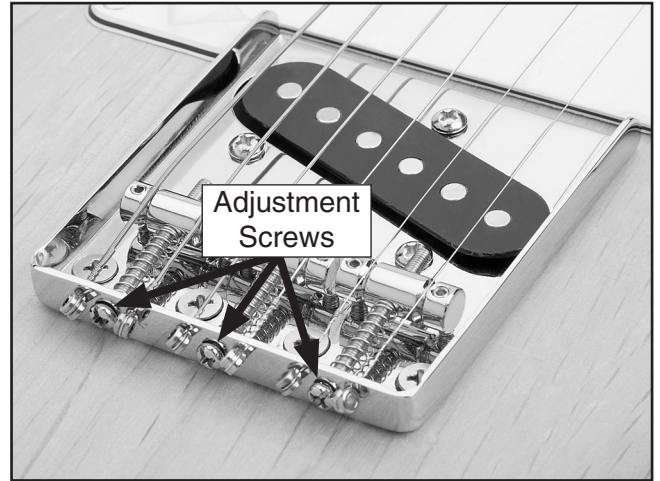

Figure 40. Saddle adjustment screws.
2. Now pluck the string while holding it fretted at the twelfth fret. If this note is sharper than the note played in **Step 1**, move the saddle away from the neck by turning the saddle adjustment screw (**Figure 40**) clockwise. If this note is flat in comparison, move the saddle toward the neck.